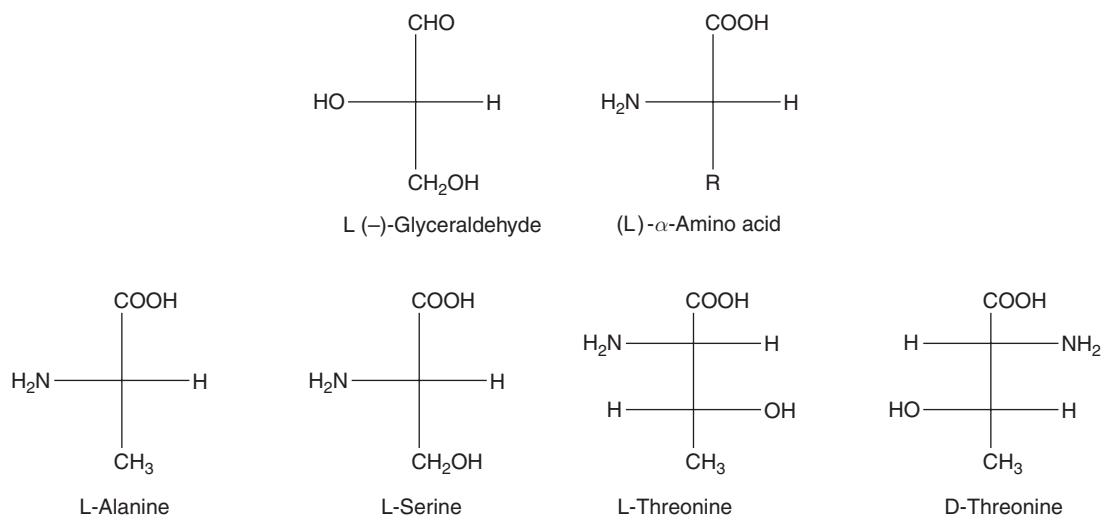

Figure 12 D- and L-series of amino acids.
- α -Amino acids:** The configurational arrangement of $-\text{NH}_2$, $-\text{COOH}$, $-\text{R}$ and H at C_α correspond to $-\text{OH}$, $-\text{CHO}$, $-\text{CH}_2\text{OH}$ and H of glyceraldehyde. Hence, looking at the relative positions of the $-\text{NH}_2$ group we can also characterize the amino acid as part of D or L series (Figure 12).